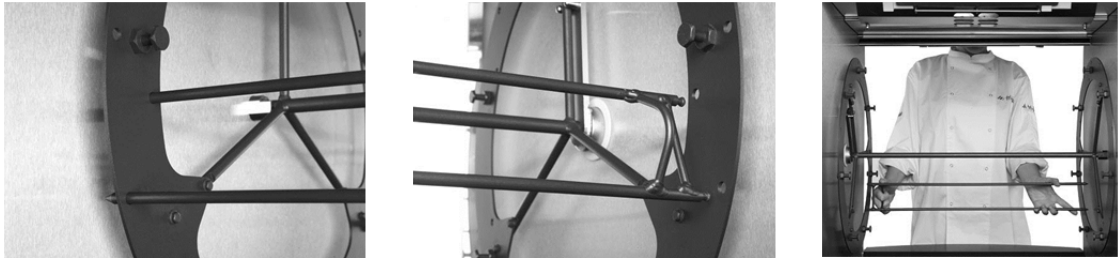

Figure 13
4. Put the points of the meat forks through the appropriate holes in the rotor disks (see Figure 13).